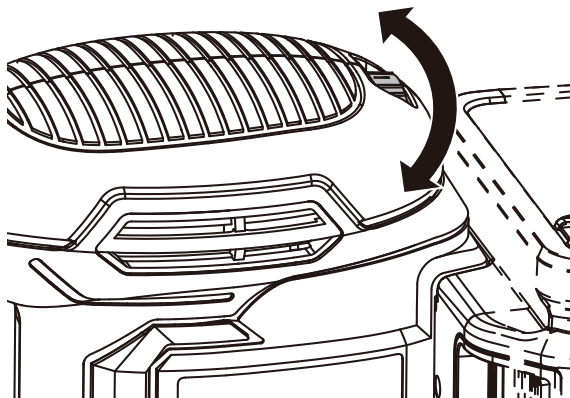

Figure 9
2. VARIABLE SPEED CONTROL (SEE FIG. 9)